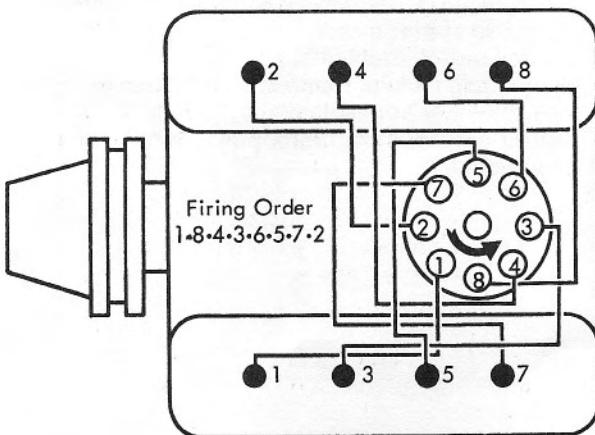

Figure 26
- B. Attach leads of timing light to spark plug lead of No. 1 cylinder (front cylinder on left bank of engine) and to power source, if required (Figure 26).